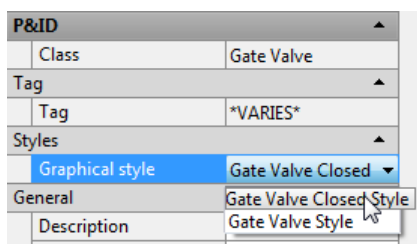
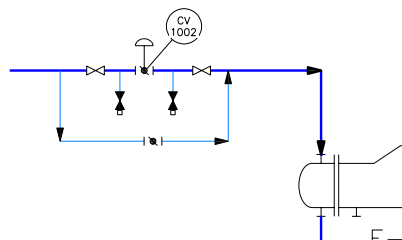

Figure 2-61 Selecting the **Gate Valve Closed Style** option from the **Graphical style** drop-down list
Figure 2-62 The graphical style of gate valves changed to the closed type
16. Select the **Gate Valve Closed Style** option from the **Graphical style** drop-down list of the **Styles** area, refer to Figure 2-61; the gate valve is closed, as shown in Figure 2-62.